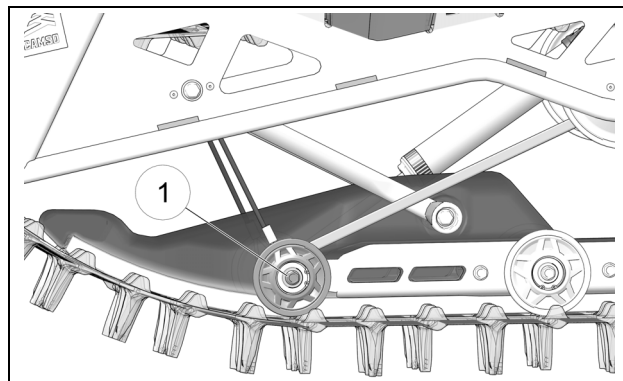

Figure 9
- Loosen the wheel assembly bolt (1) located next to the grooved bushing where the long end of suspension spring sits and remove the wheel. See Figure 9.